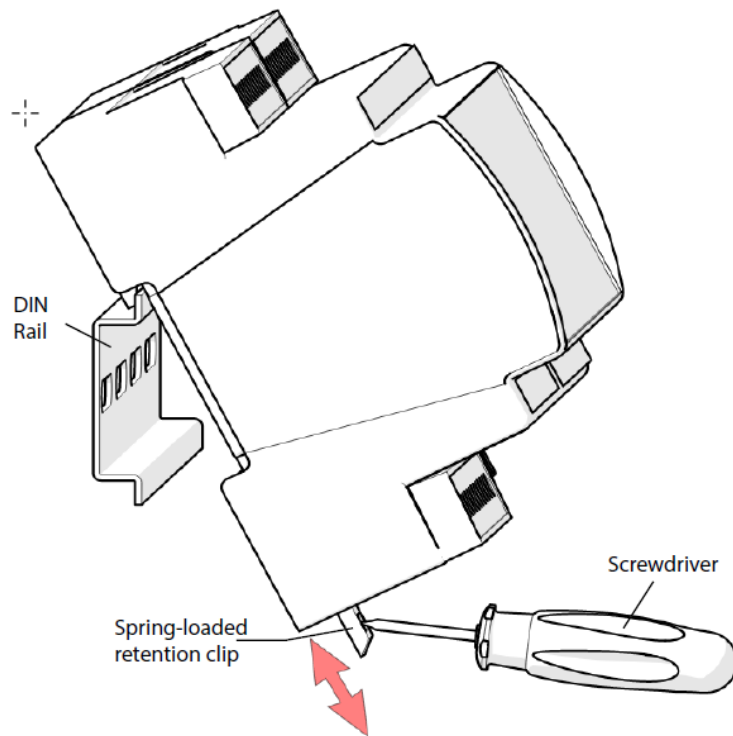

Figure 7. Engage the DIN rail and pull the retention clip
4. Push the unit onto the DIN rail. Refer Figure 7.